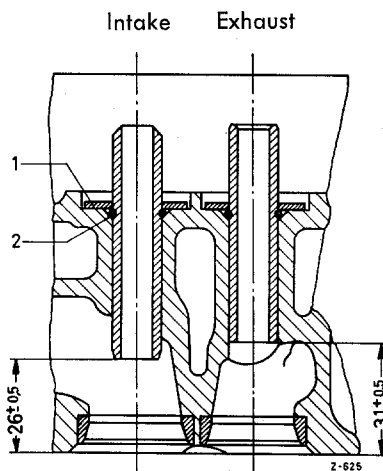

Figure 01-6/1
- x **Note:** If on OM 621, type 621.910 the valve guides are replaced, install the new Teflon seals and valve guides of type 621.912 (see Figure 01-6/6).